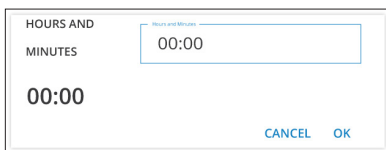

Fig. 62—(Left) If you select the pencil icon, you may use the keyboard to enter a four-digit number in the form of HHMM to set the period.
- If you click on the pencil, a popup appears (Fig. 62). enter a four-digit number (HHMM) to set the hours and minutes.